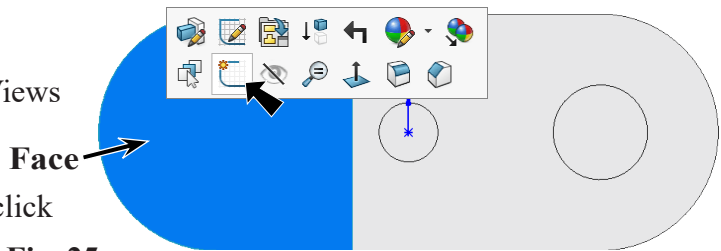

Fig. 25
Step 2. Click the **side face of left side** and click **Sketch**  on the context toolbar, Fig. 25.